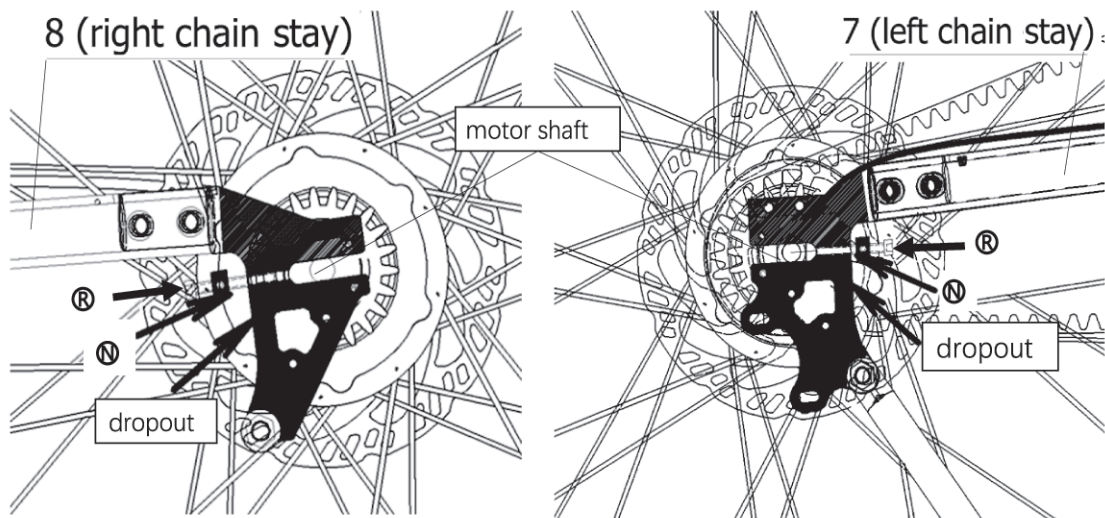

Figure 32.
g. Use the 4 mm Allen key to tighten the screws ® on the left and right dropouts to make the set screw touch the dropout. Contact can be made without overtightening the screws. Then, observe carefully and confirm that the tail end of the screw is against the motor shaft. There is a screw on both the left and right dropout, each of which needs to be operated according to this, as shown in Figure 32.